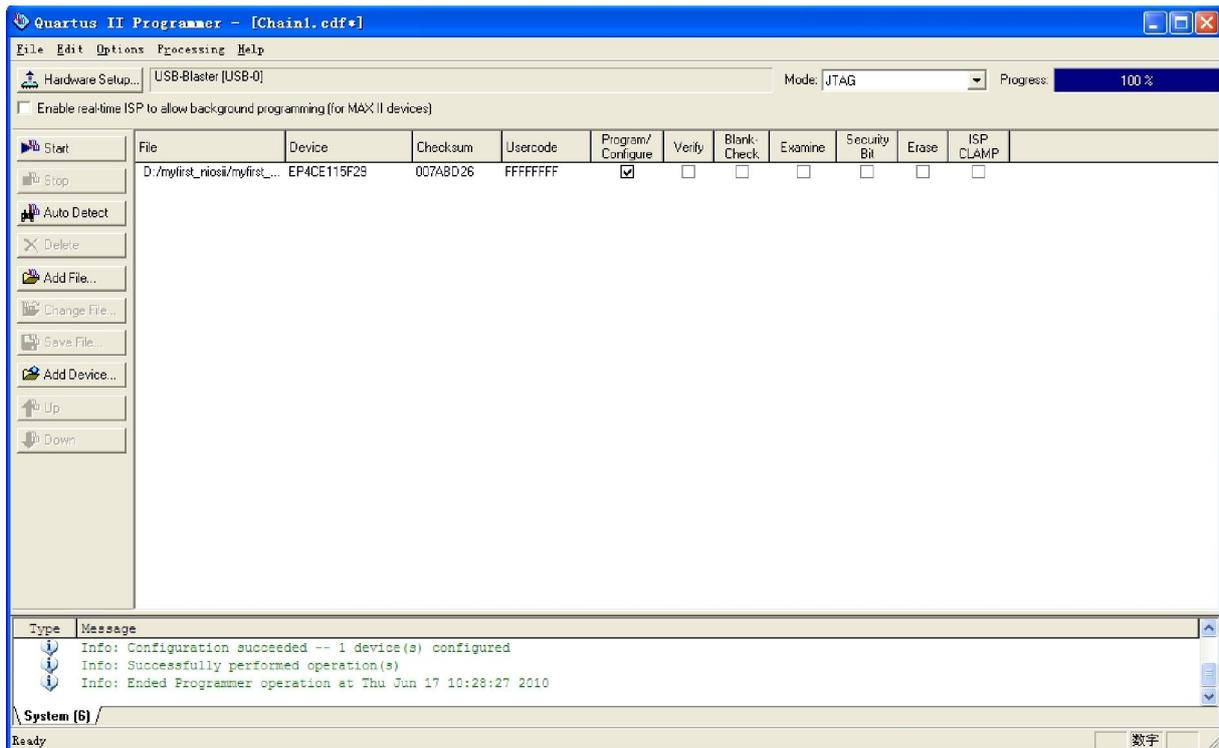

Figure 1-54 Quartus II Programmer
15. Turn on the **Program/Configure** option for the programming file.(See Figure 1-54 for an example).